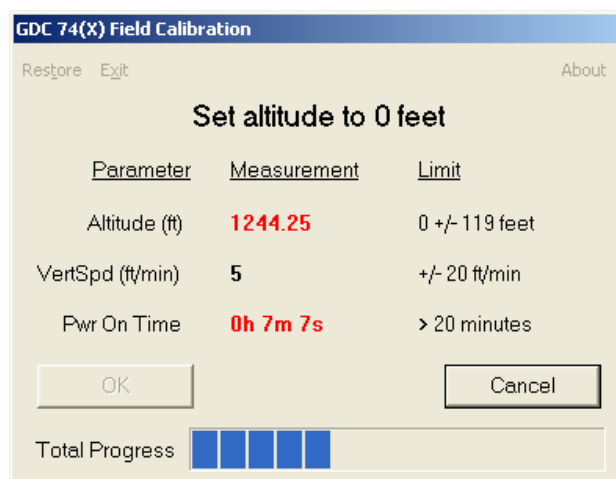

Figure 5-13. 0 Feet Calibration Screen
11. After the unit type has been determined, the 'Set altitude to 0 ft' screen (Figure 5-13) appears.